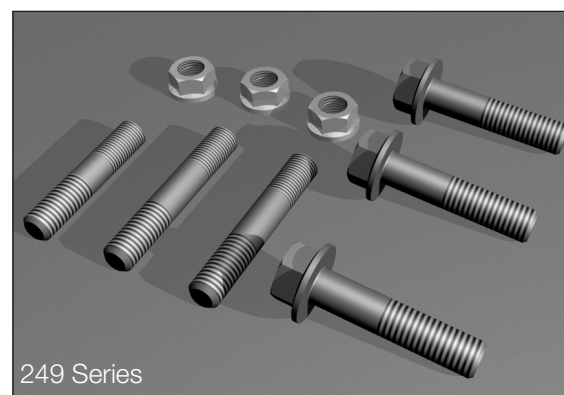
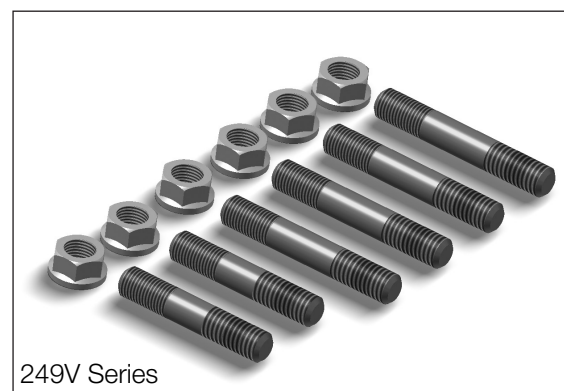
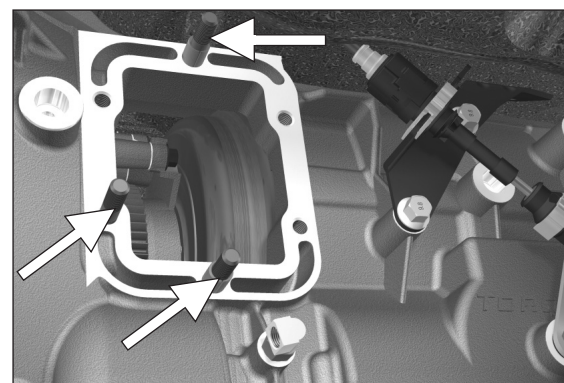

Figure 26
Figure 27
Figure 28
- Six fasteners (**Fig. 26 or Fig. 27**) are used to attach the PTO to the transmission opening.
- 249** - Install the three studs from stud kit (**Fig. 26**). Install the two longer studs at 12 O'clock and 6 O'clock and the shorter stud at the 8 O'clock location on the transmission aperture pad (**Fig. 28**).
249V - Install the six studs from stud kit (**Fig. 27**). Install the two shorter studs at 4 O'clock and 8 O'clock and the longer studs in the other locations on the transmission aperture pad.